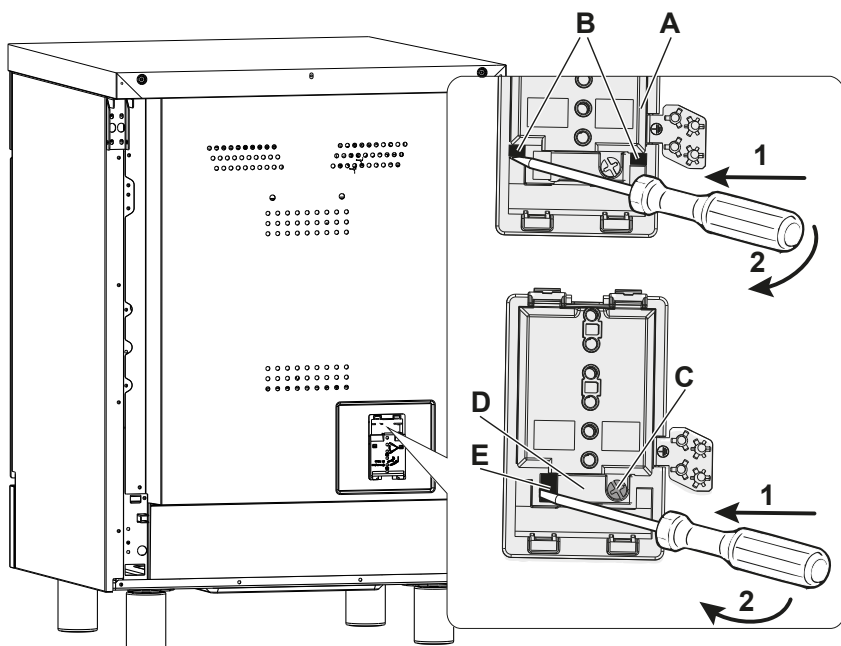

Figure 10
- Unhook the terminal board cover “A” by inserting a screwdriver into the two hooks “B” (fig.10). Open completely the terminal block cover “A”.
- Unscrew the screw “C”, then unhook the cable clamp “D” by inserting a screwdriver into the hook “E”. Remove completely the cable clamp “D” (fig. 10).
- Connect the phase, neutral and earth wires to terminal board “F” according to the diagrams in fig. 11; the U bolts “G” (fig. 10) shall be used as indicated in the diagrams in fig. 11 (they are supplied already fitted to the terminals or inside the terminal board, behind the cover).